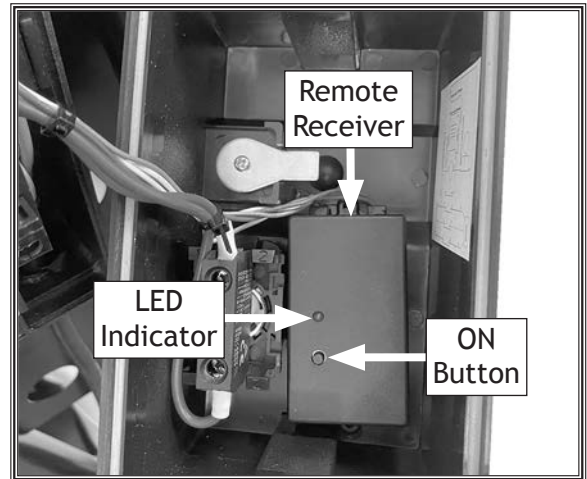

Figure 56. Location of remote receiver (W1867 shown).
1. Remove switch cover to get a clear view of remote receiver (see **Figure 56**).
2. To erase any current remote transmitter codes, press black ON button on receiver and hold down until LED indicator on receiver begins to flash (see **Figure 56**).